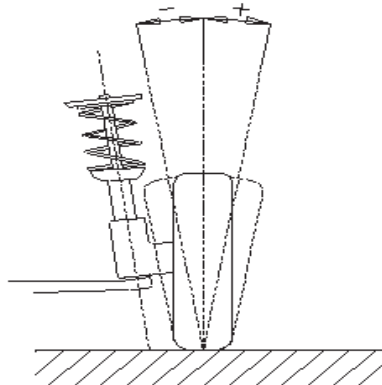

Figure 1.1
- Camber is the leaning of the wheel inwards or outwards from the vertical. If the road wheel leans outwards from the vertical, it has positive camber and when leaning inwards from the vertical - negative camber, looking from the front or rear of the vehicle. See Fig.1.1. Camber is measured in degrees. Without camber, the wheels will tilt to the inside at full load; increase the possibility of uneven tire worn. Hence, this parameter can extend the life of tire and related axis.